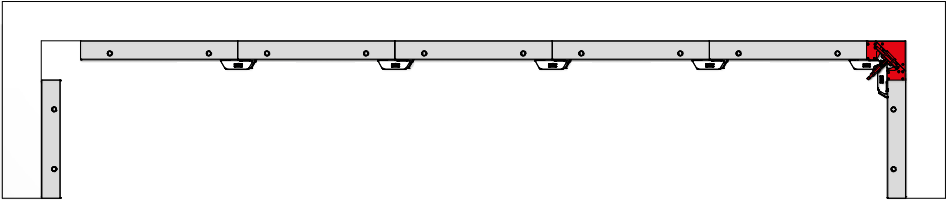

Fig. 57.3
3. Lift the stripping corners off, then strip the panels (Fig. 57.3).